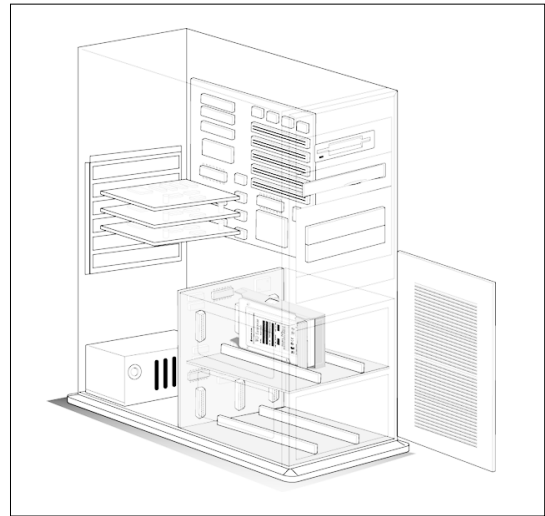

Figure 18. Connecting an 80-pin Drive to a Backplane
- 3) Ensure that the drive is properly seated on the backplane connector. Refer to Figure 18.